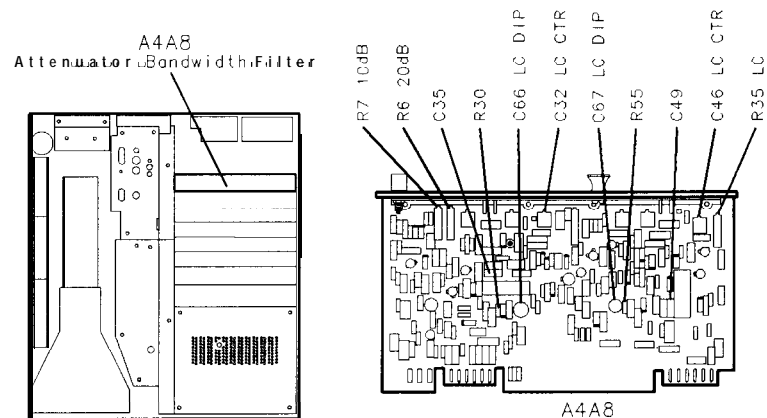

Figure 3-43.
30. Adjust A4A8C32 LC CTR and A4A8C46 LC CTR for maximum MARKER level as indicated by CRT annotation. See Figure 3-43 for location of adjustments. If unable to adjust A4A8C32 and A4A8C46 LC CTR adjustments for satisfactory signal amplitude, increase or decrease value of A4A8C35 and A4A8C49. Refer to Table 3-3 for range of values.
34. Adjust A4A8R35 LC to align markers on display. **MARKER A** level should indicate 1.00 X. See Figure 3-43 for location of adjustment.
61. Adjust A4A8C66 LC DIP for minimum amplitude of signal peak. See Figure 3-43 for location of adjustment. Key in [PEAK SEARCH] MARKER [Δ], and adjust LC DIP again to offset the signal peak
63. Adjust A4A8C67 LC DIP for minimum amplitude of signal peak. See Figure 3-43 for location of adjustment. Key in PEAK SEARCH MARKER Δ, and adjust LC DIP again to offset the signal peak approximately -17 kHz (to the left). If unable to achieve a “dip” in signal amplitude, increase or decrease value of A4A8R55. Refer to Table 3-3 for range of values.
72. Adjust A4A8R7 AI0dB to align markers on display. MARKER A level should indicate 0.00 dB. See Figure 3-43 for location of adjustment.
74. Adjust A4A8R6 A20dB to align markers on display. MARKER A level should indicate 0.00 dB. See Figure 3-43 for location of adjustment.